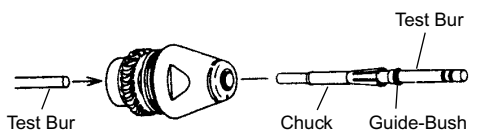

Fig. 7
- When the rotor nut is loose. Push out the chuck carefully with dummy bur or the shank of bur from the back of the cartridge, the guide-bush and the chuck will come out.(Fig.7)